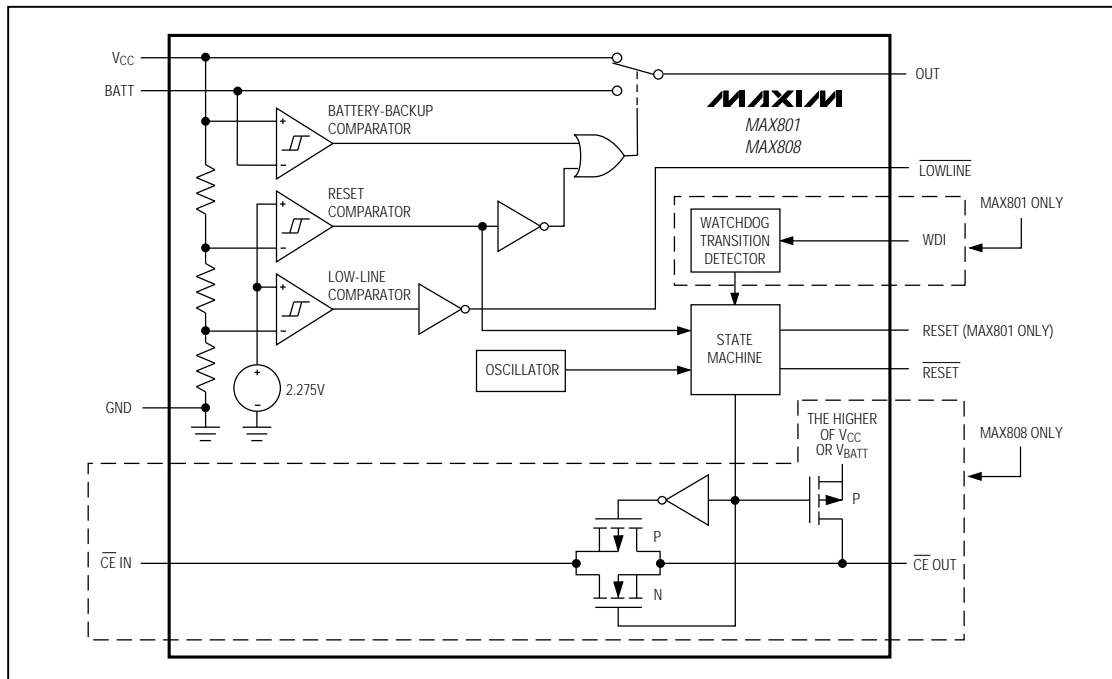

Figure 1. Functional Diagram
The MAX801/MAX808 microprocessor ( $\mu\text{P}$ ) supervisory circuits provide power-supply monitoring and backup-battery switchover in  $\mu\text{P}$  systems. The MAX801 also provides program-execution watchdog functions (Figure 1). Use of BiCMOS technology results in an improved, 1.5% reset-threshold precision while keeping supply currents typically at  $68\mu\text{A}$  ( $48\mu\text{A}$  for the MAX808). The MAX801/MAX808 are intended for battery-powered applications that require high reset-threshold precision, allowing a wide power-supply operating range while preventing the system from operating below its specified voltage range.
The MAX808 provides internal gating of chip-enable (CE) signals to prevent erroneous data from corrupting CMOS RAM in the event of a power failure. During normal operation, the CE gate is enabled and passes all CE transitions. When reset is asserted, this path becomes disabled, preventing erroneous data from corrupting the CMOS RAM. The MAX808 uses a series transmission gate from the chip-enable input ( $\overline{\text{CE IN}}$ ) to the chip-enable output ( $\overline{\text{CE OUT}}$ ) (Figure 1). The 8ns max chip-enable propagation from  $\overline{\text{CE IN}}$  to  $\overline{\text{CE OUT}}$  enables the MAX808 to be used with most  $\mu$ Ps.